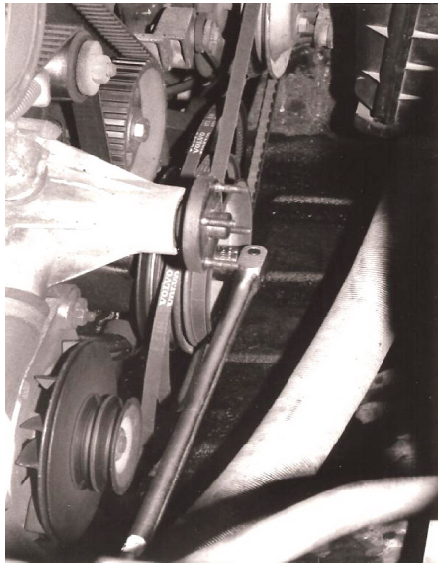
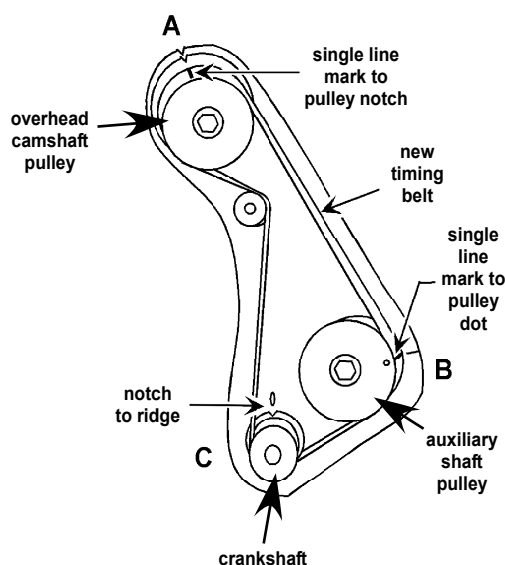

Figure 8. Turning the crankshaft to align the marks per Figure 9.
Figure 22. Align single line marks of new timing belt as shown, along with notch to ridge for crankshaft.
6. Use a 22-mm socket on the crankshaft pulley nut (**Figure 8**) to turn the crankshaft until the timing marks A and B are aligned as shown in **Figure 9***.
Figure 9. There should be a three point alignment, A, B, and C, between each pulley and a background mark. A: notch on back side of overhead camshaft pulley to notch on camshaft cover. B: dot on auxiliary shaft pulley at 3:00 to line on rear cover (may be hard to see—no matter, see Figure 22). C: notch on crankshaft rear guide plate to ridge on crank seal housing (cannot be seen until crankshaft pulley is removed and area cleaned with solvent-soaked rag—Step 7).
(b) The white dot on the auxiliary shaft pulley is at the 3:00 o'clock position. [Figure 11—there may or may not be a corresponding mark on the rear cover. Don't worry, we will be aligning to the new belt anyway (Figure 22)]
15. With belt on, double check that you have alignment at points A, B, and C of **Figure 9** or **Figure 22**:
17. Check. Slide two loose belts of **Figure 23** over steering assist or AC compressor and away from any moving parts. Keep loose clothing, long hair, and body parts away from moving parts! Start and run engine for 15 seconds, then stop. Re-examine alignment marks of **Figure 9** by rotating the crankshaft per **Figure 8**. Note that it will be almost impossible to line up the belt marks per **Figure 22**, but the pulley alignment marks per **Figure 9** should be easy to accomplish. Verify this. If not aligned, repeat **Step 14**. If good, your check is done. Start reassembly.
halves. The fasteners will be tight, but once the engine is started, they will become loose. Slowly tighten the bolts (in diagonal fashion) a few turns and then turn the crankshaft a half revolution (using the 22-mm socket wrench of **Figure 8**) to free the belt. Repeat this process until the fasteners are completely seated and tight (5-6 ft-lbs).
After 500 miles, pry the rubber tensioner plug (as shown in **Figure 4**) out from the timing belt cover and loosen the 17-mm tensioner nut. With car in neutral, as shown in **Figure 8**, use the 22-mm socket to turn the crankshaft clockwise (as seen from front of engine) one 360-degree crankshaft rotation to tighten the belt. (No, you don't have to be at top dead center, as some manuals claim.) Tighten the tensioner nut. (Be careful when reinserting the rubber plug! If it falls into the hole, you'll have to disassemble almost everything to retrieve it.) You're all done.